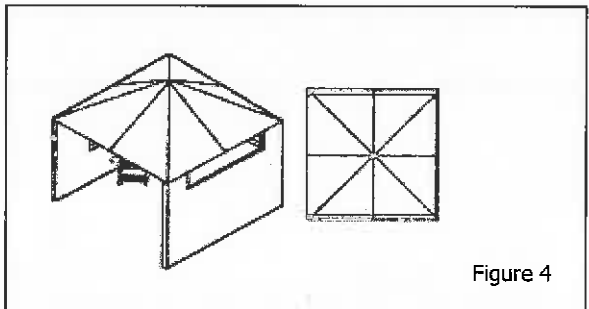

Figure 4
a). One wall that is equivalent to at least 25% of the total wall area is completely open. (figure 4)